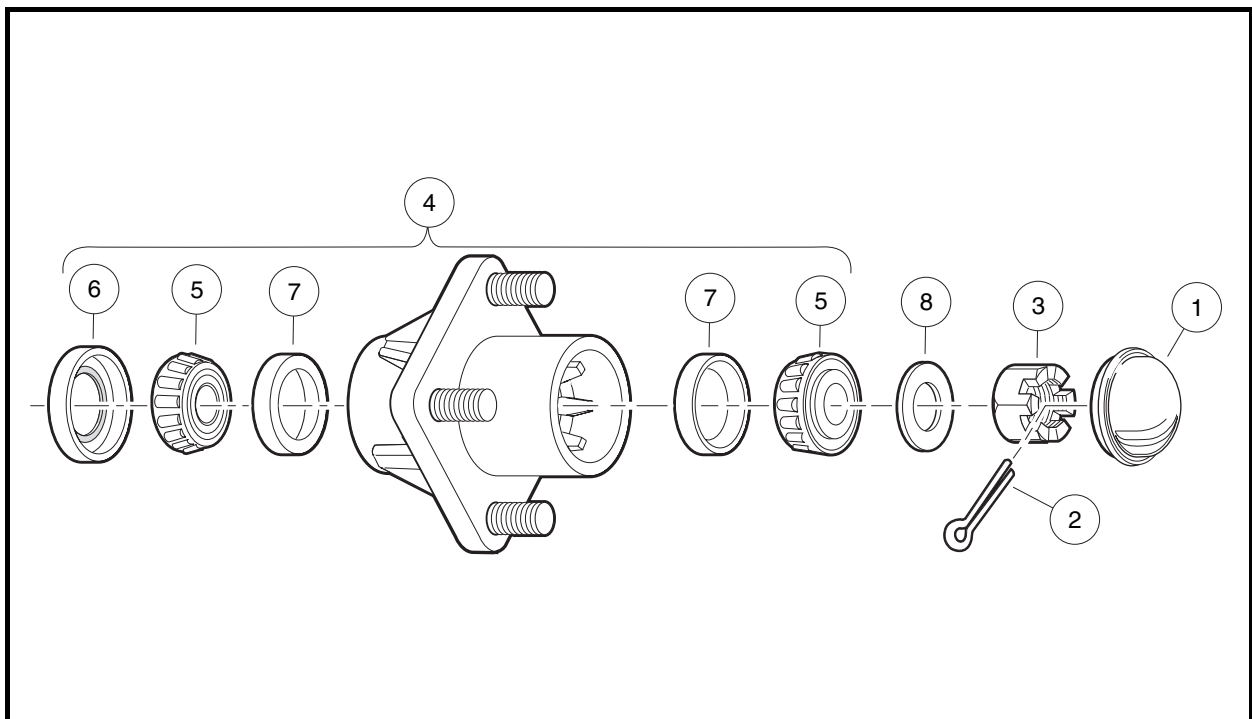

Figure 7-25 Front Wheel Bearings and Hub - Four-Wheel Brake Vehicles
2. Using your hands, attempt to rock the wheel and hub assembly back and forth on the spindle. If there is any observable movement of the wheel and hub on the spindle, remove dust cap (1) and cotter pin (2), and then tighten the spindle nut (3) until the bearing (5) fully seats in the bearing race (7) (**Figure 7-25, Page 7-23**).
4. Install a new cotter pin (2). If movement continues, replace the wheel bearings (5) as required.
- 2.1. Remove dust cover (1), cotter pin (2), spindle nut (3), and flat washer (8) (**Figure 7-25, Page 7-23**).
1. Pack the wheel bearings (5) and hub cavities, and lubricate cups (7) with wheel bearing grease or chassis lube. Make sure the grease is forced between the rollers (**Figure 7-25, Page 7-23**).
2. If bearing cups (7) were removed, press new ones in squarely against stops in the hub. **See following NOTE.**